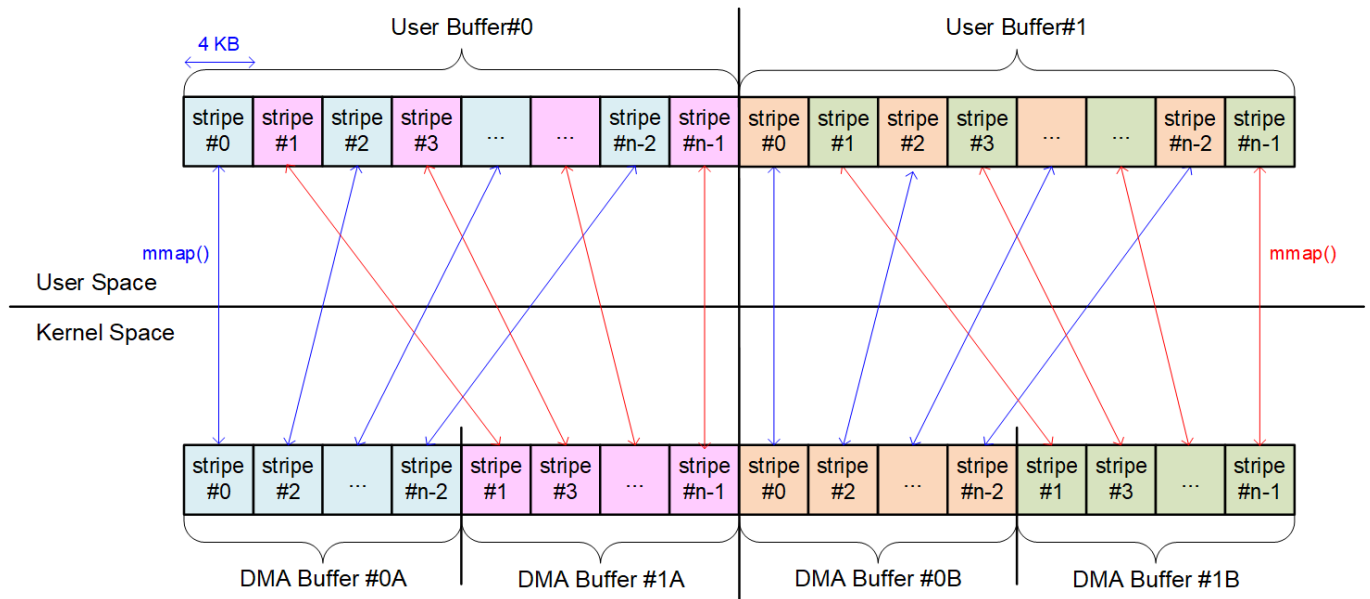

Figure 13 DMA Dual Driver Memory Mapping
As illustrated in Figure 13, the mapped memory follows an interleaved striping pattern to further enhance performance. A stripe, defined as a small memory block (configured at 4 KB), is used to alternate data between the two DMA engines. When buffers are mapped to user space, the memory layout is arranged so that the first stripe comes from “DMA Buffer #0”, the second from “DMA Buffer #1”, the third from “DMA Buffer #0”, and so on. This interleaving spans the entire user buffer.
- START_XFER: Starts a DMA transfer on one or both channels by configuring a scatter-gather (SG) list, generating DMA descriptors, and assigning a completion callback to monitor the transfer status—all depending on the size of the data being transferred.
- “.mmap”: Maps the DMA buffer into user space, enabling zero-copy access to the memory from the application. This eliminates the need for intermediate data copies, achieving high-throughput operation, as illustrated in Figure 13.